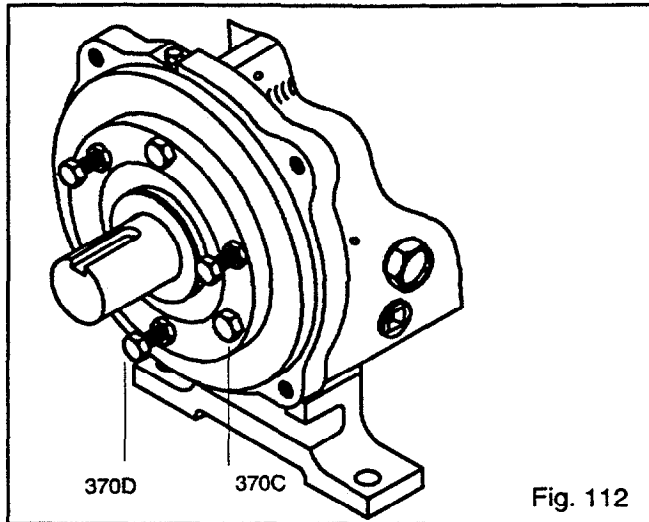

Fig. 112
- Loosen clamp bolts (370C), and jacking bolts (370D). Measure gap between impeller (101) and seal chamber/stuffing box cover (184) with a feeler gauge. When 0.030 in. clearance is reached, tighten clamp bolts (370C), jacking bolts (370D), and locking nuts (423) (Fig. 112)